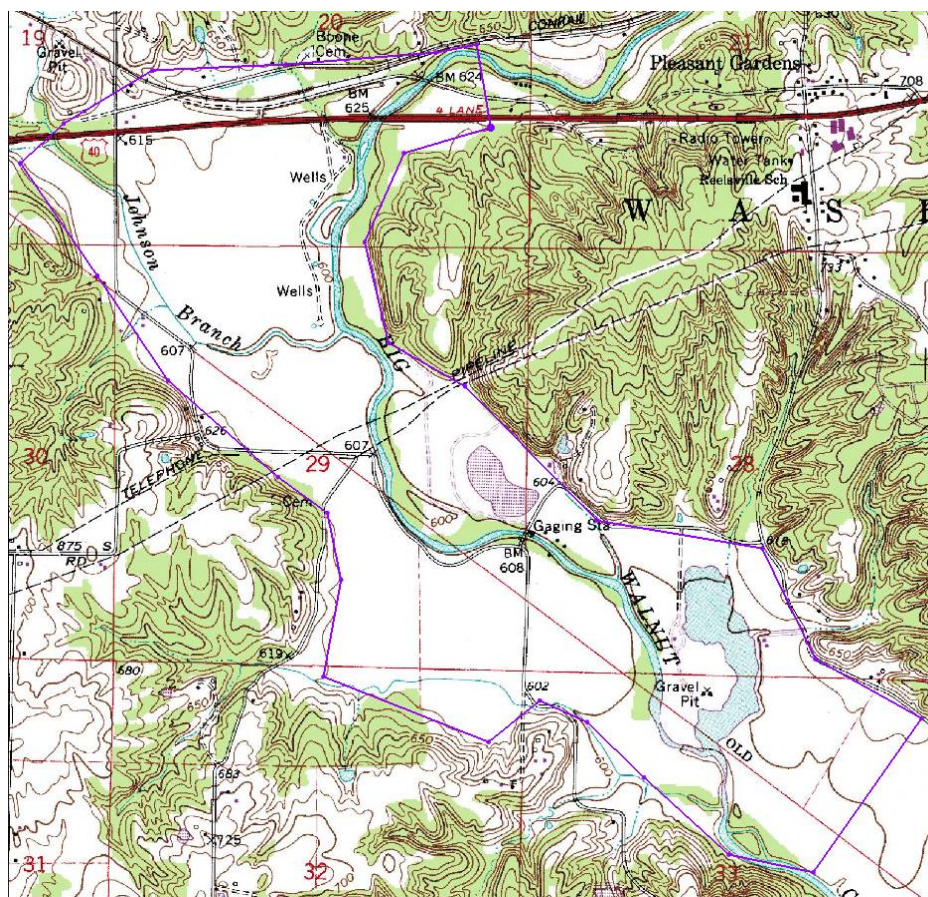

Figure 3. Boundary arcs.
6. Click out the boundary as shown in Figure 3 below.